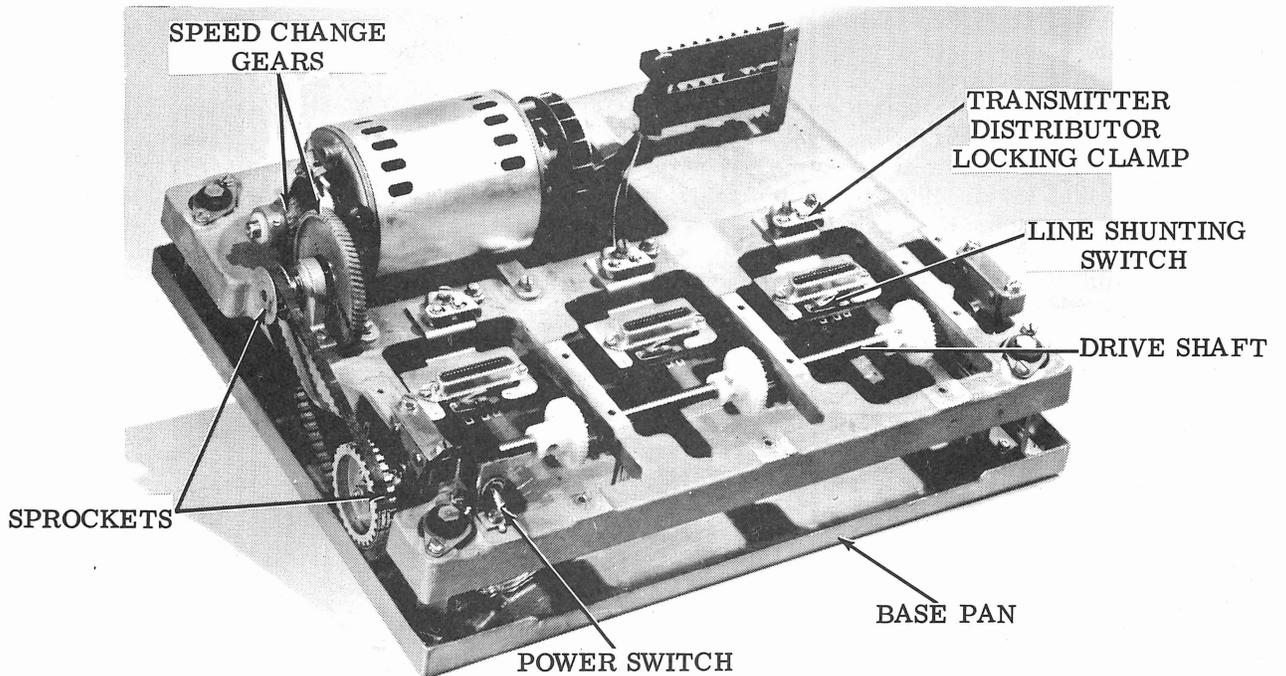
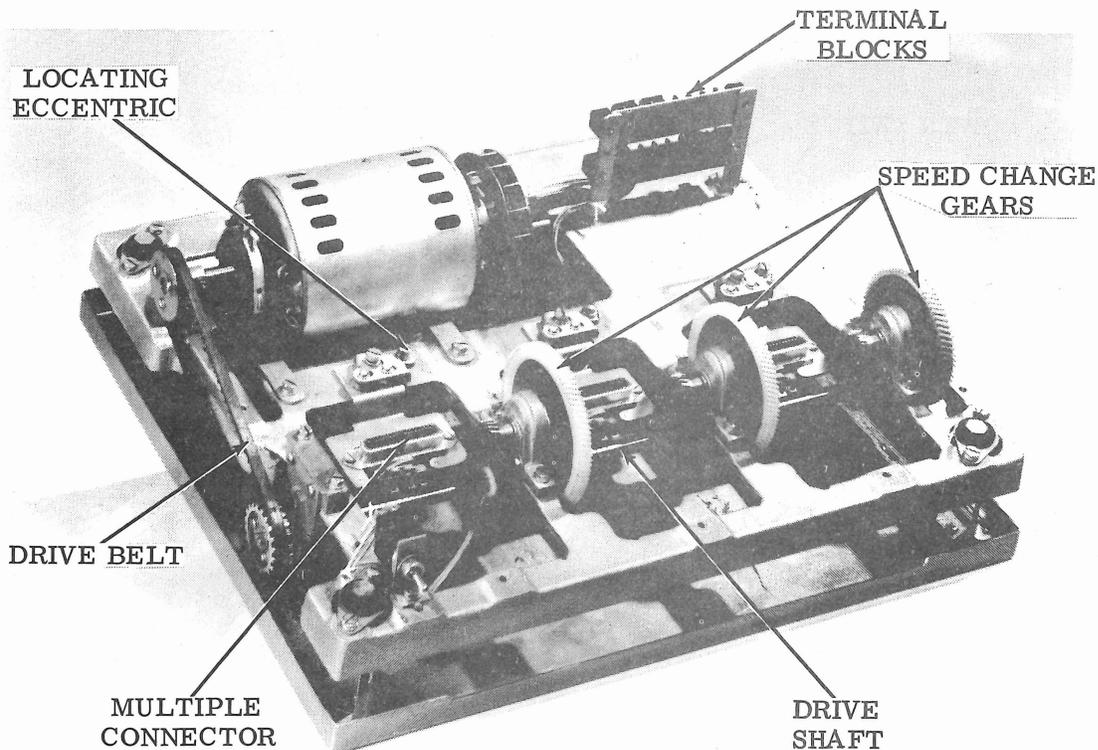
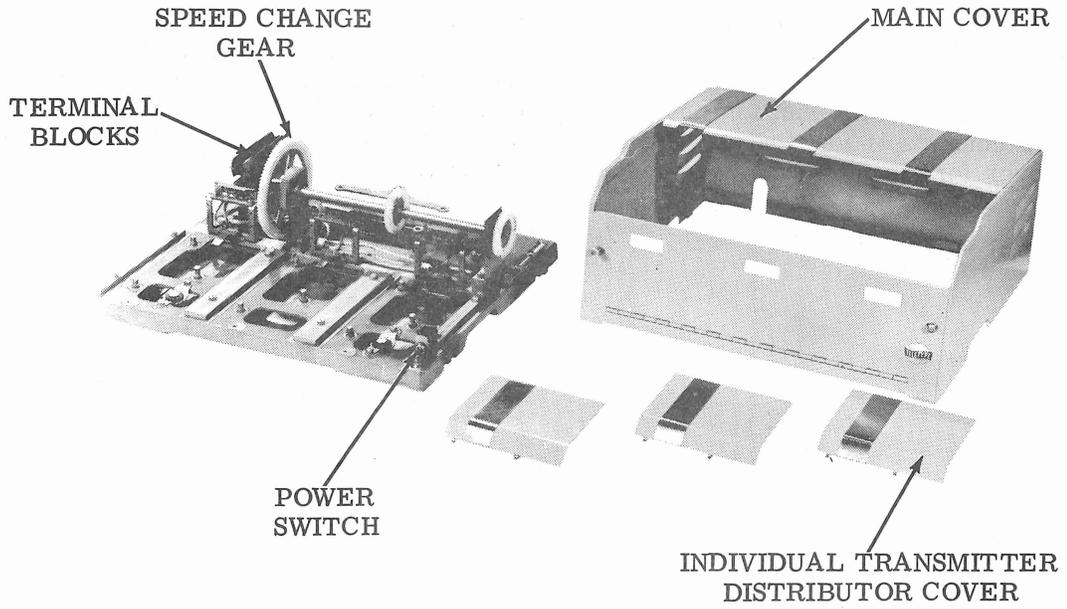
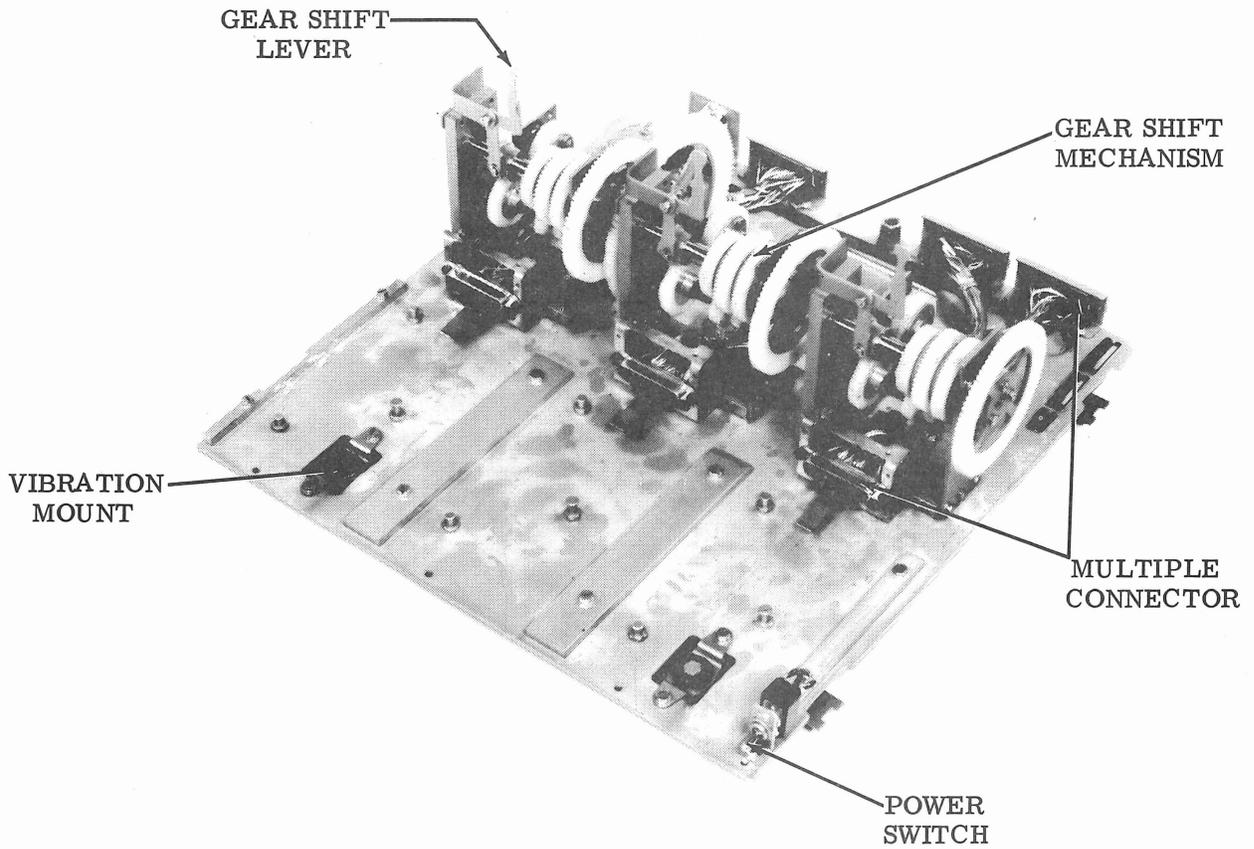

Figure 6 - Single Contact Multiple Mounting Transmitter Distributor Base (Common Speed)
Figure 7 - Single Contact Multiple Mounting Transmitter Distributor Base (Variable Speed)
Figure 8 - Multicontact Multiple Mounting Transmitter Distributor Base (Common Speed)
Figure 9 - Multicontact Multiple Mounting Transmitter Distributor Base (Variable Speed)
2.16 The multiple mounting base is designed as a mounting for three transmitter distributors, a motor unit, drive shafting, and gears. There are two types of these bases, each with provisions for changing the driving speed of its associated transmitter distributors. One type is designed as a mounting for three single contact transmitter distributors (Figures 6 and 7). The other type is designed as a mounting for three multicontact transmitter distributors (Figures 8 and 9).
change gears between the motor pinion and an intermediate gear assembly (Figure 6). With this arrangement, the three gears on the drive shaft are the same size and drive all three transmitter distributors at the same speed. Other bases have speed change gears at each transmitter distributor (Figure 7). With this arrangement, each transmitter distributor may be driven at 60, 75, or 100 words per minute by changing its intermediate gears.
2.20 The multiple mounting bases for the multicontact transmitter distributors also serve as a mounting for three transmitter distributors, a motor unit, drive shafting with gears, and electrical connections. Some of these bases are constructed of aluminum casting (Figure 8); others are constructed of steel plates (Figure 9). A drive shaft traverses the base near its center portion and drives the transmitter distributors, either directly or through a gear shift assembly. Where the shaft drives the transmitter distributor directly, the speed changes are made between the motor pinion and
the intermediate gear (Figure 8). Where the gear shifts are used, the speed of any one of the transmitter distributors may be changed irrespective of others by shifting the gears (Figure 9).
and terminal blocks; and the other three are cover plates for the individual transmitter distributors (Figure 8). The front side of the larger cover is hinged so that it may be opened for access to the front of the transmitter distributors.